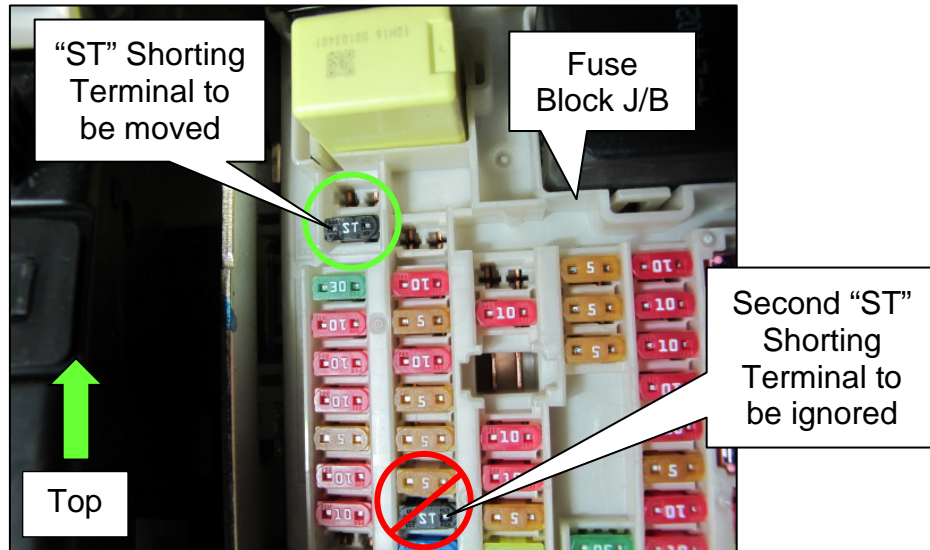
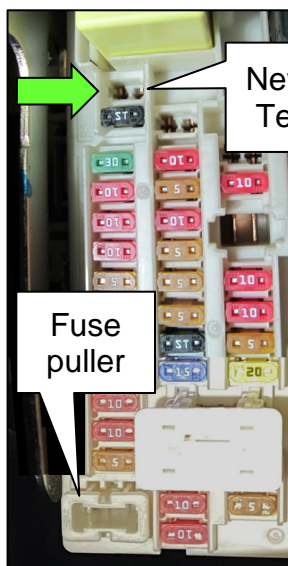
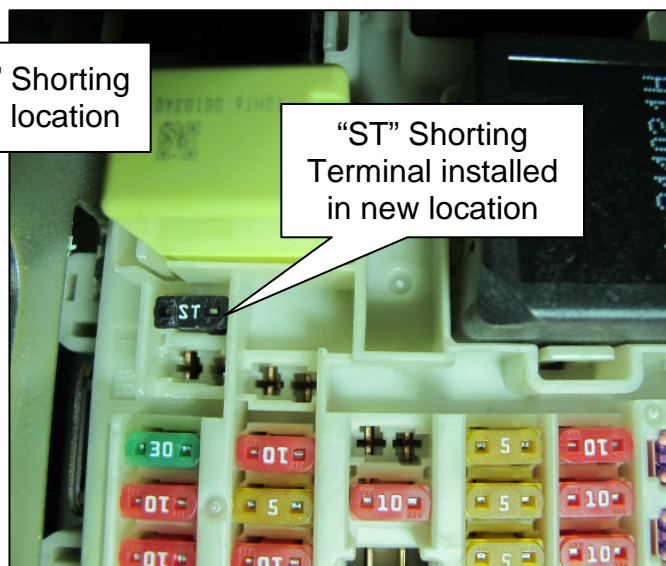

Figure 5
Figure 6
Figure 7
- Use a fuse puller or another suitable tool to remove and re-install the “ST” Shorting Terminal UP one position, as shown in Figure 6 and Figure 7.
**HINT:** The glovebox was removed in Figure 5, Figure 6, and Figure 7; however, the glovebox does not have to be removed for this procedure.